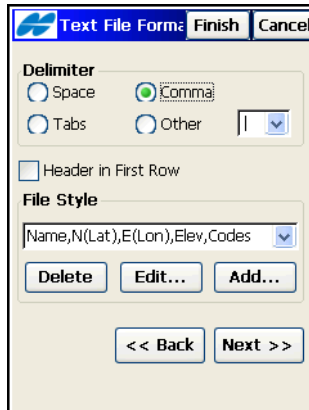

Figure 5-11. Text File Format
2. Specify the format in which data is stored in the file (Figure 5-11).